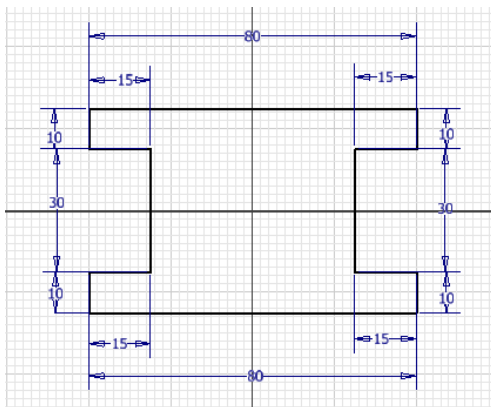

Figure 2-62 Sketch of the outer loop
16. Right-click to display the Marking Menu and choose **OK** from it to exit the **Line** tool. The sketch of the outer loop is shown in Figure 2-62. You need to arrange the position of dimensions in the sketch by dragging them to view the sketch clearly.
The angular dimensions have not been shown in Figures 2-62 and 2-63 for clarity of sketches. You can control the display of the linear and angular dimensions of the sketch. To do so, choose **Application Options** from the **Options** panel of the **Tools** tab; the **Application Options** dialog box is displayed. In the **Sketch** tab of the **Application Options** dialog box, choose the **Settings** button; the **Heads-Up Display Settings** dialog box is displayed. Clear the **Create dimensions when inputting dimension value** check box in the **Persistent Dimensions** area of the **Heads-Up Display Settings** dialog box and then choose **OK**. Next, choose the **Apply** and **Close** buttons from the **Application Options** dialog box to turn off the visibility of the dimensions during sketching.